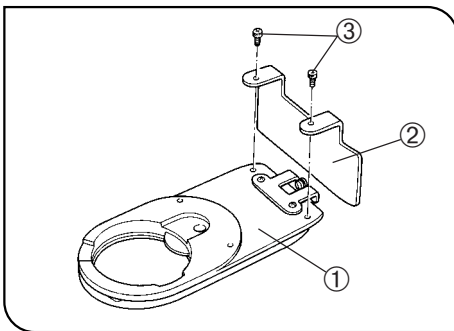

Fig. 29
(Figs. 29 - 32)
1. Attach the hand guard ② to the revolving nosepiece ① by tightening the provided 2 clamping screws ③ (M3 — 4 mm long) using the provided Allen wrench (for M3 screws). (Fig. 29)